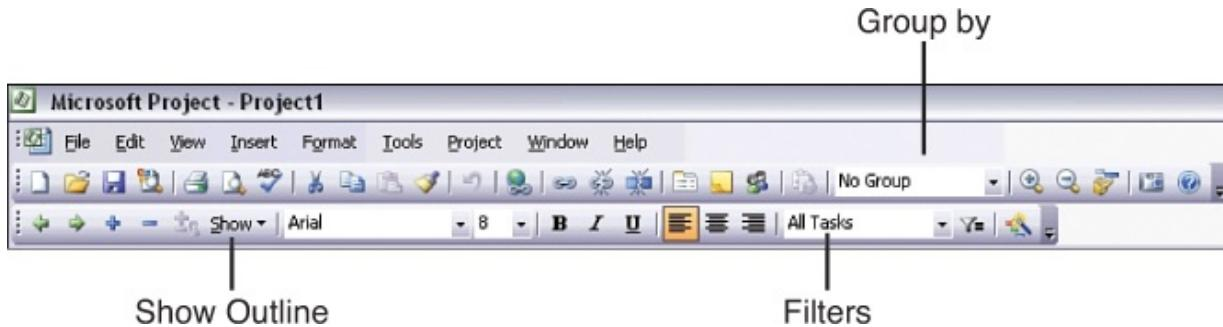

Figure 23.5. Task selection functions on toolbars.
- **Displaying Tasks**—Many new users do not realize that you can easily control what level of task detail is displayed, which tasks are displayed and even how the tasks are organized when they are displayed. With this control, you create much more flexibility with how you communicate and report using your Project file. These task display control features are readily available from the standard Project toolbar (and from the Project menu), but they are frequently underutilized. See Figure 23.5 for the toolbar references.